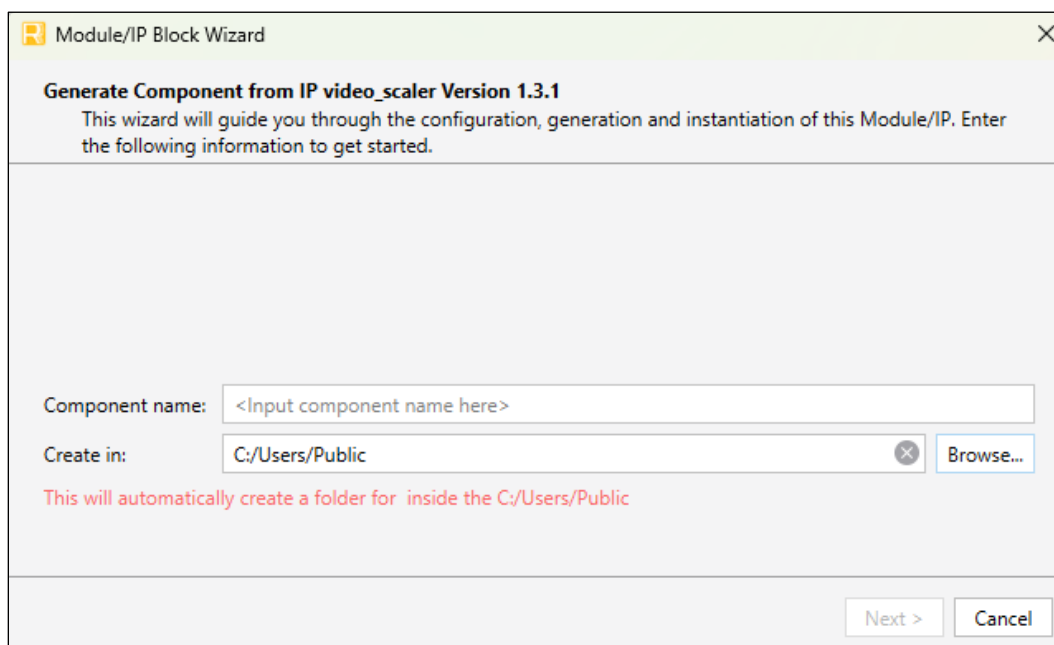

Figure 6.1. Module/IP Block Wizard
- a. The **Module/IP Block Wizard** opens as shown in Figure 6.1.
7. Click **Finish**. All the generated files are placed under the directory paths in the Create in and the **Component name** fields are shown in Figure 6.1.